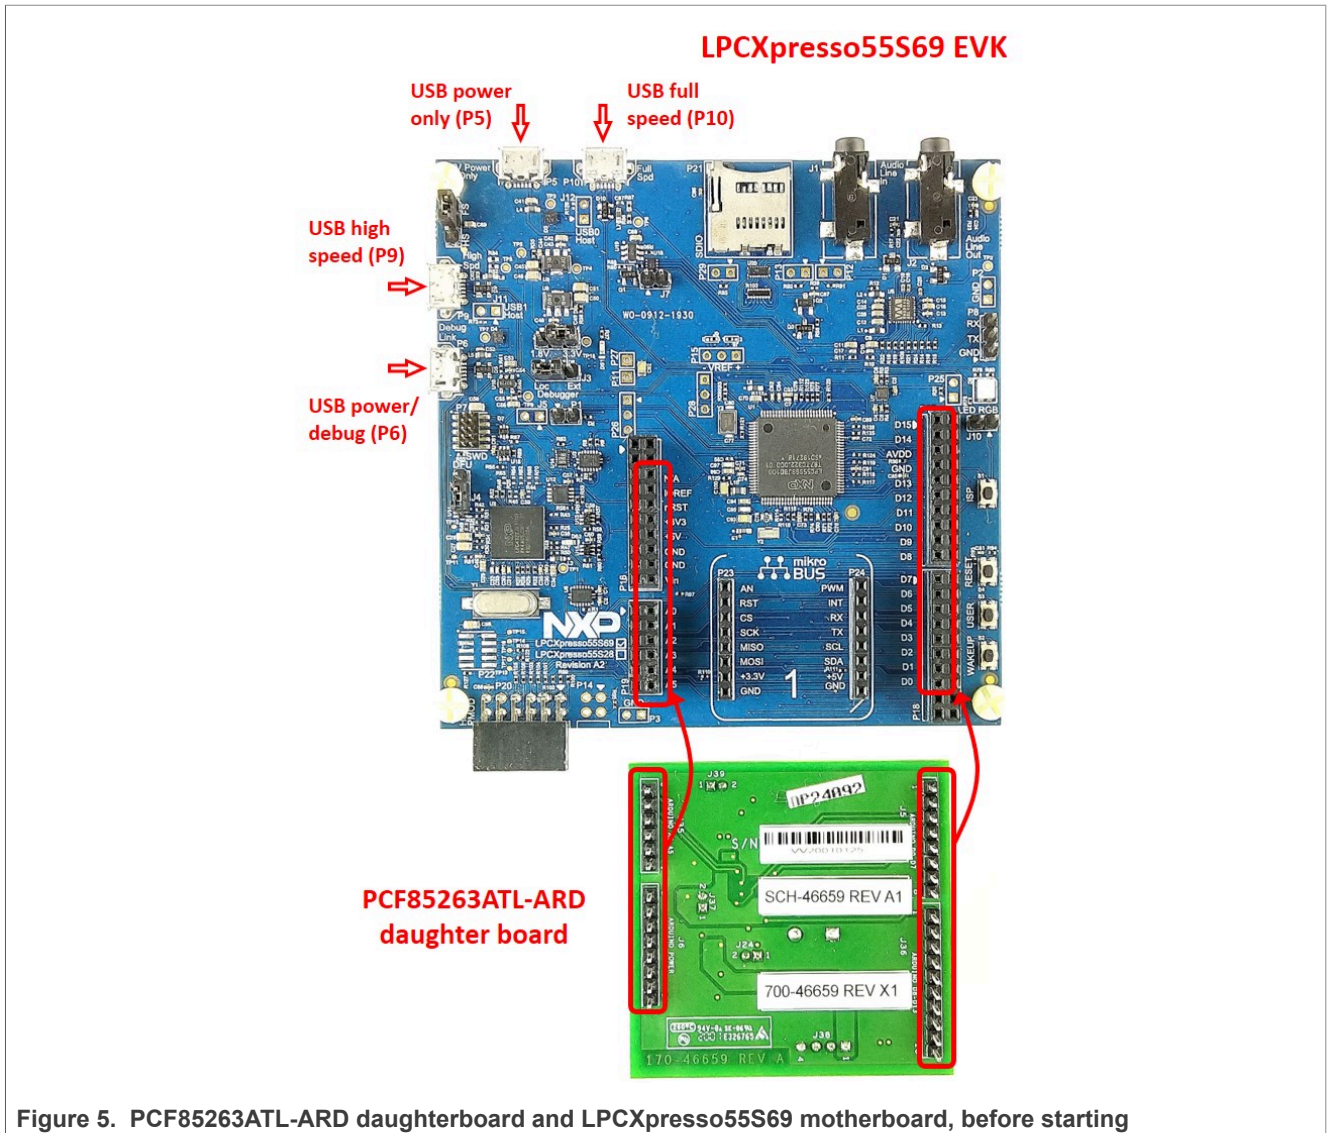

Figure 5. PCF85263ATL-ARD daughterboard and LPCXpresso55S69 motherboard, before starting
Figure 5 shows the required hardware for operation of the PCF85263ATL-ARD and LPCXpresso55S69 EVK board. This configuration consists of:
The following steps describe how to assemble, program, and operate the configuration shown in Figure 5.
1. Insert the PCF85263ATL-ARD daughterboard to P16 – P19 connectors located on LPCXpresso55S69 development board (see the marked pins of P16 – P19, Figure 5);